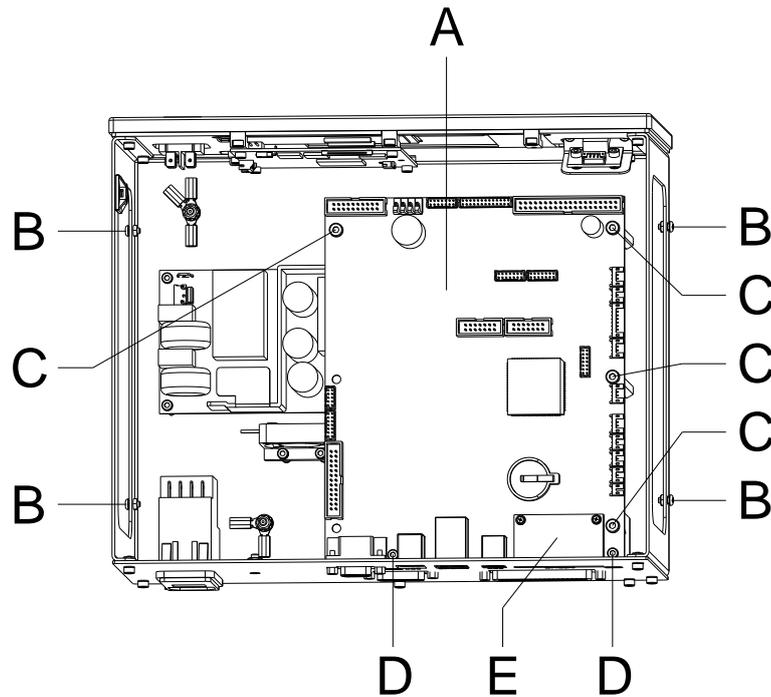

Figure 16
2. Unscrew the four screws (B, Figure 16) and remove the control unit cover.